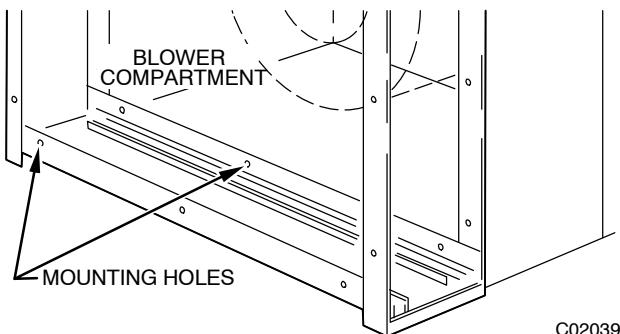

Fig. 7 – Mounting Holes
5. Mounting holes are provided for simple connection to duct work and unit cabinet. See Fig. 7. The .140 in. holes are sized for # 8 sheet metal screws, or 1/8 in. rivets. If the adjoining duct work is flanged, install the screws so that the screw heads are inside the cabinet. This will prevent damage to the EZ-Flex filter during removal and installation.